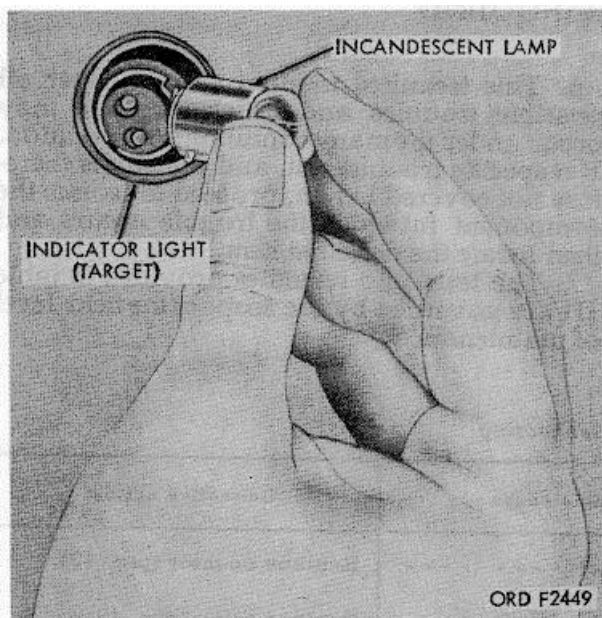
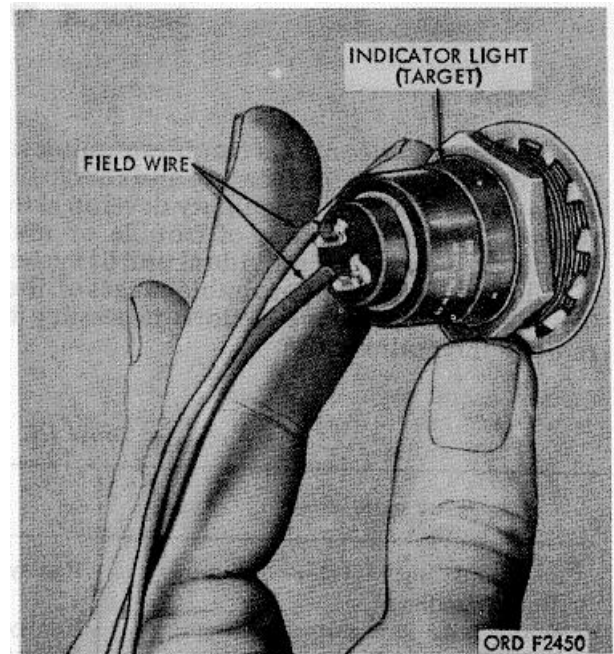

Figure 18. Removing or installing target indicator light lamp.
Figure 19. Removing or installing target indicator light
- (c) Push in on lamp and turn it counterclockwise to remove burned out lamp (fig. 18).
(2) Replace indicator light as follows:
- (a) Remove defective indicator light from target (fig. 19).
- (1) Disconnect wires from terminals of defective receptacle plug connector 5935259-1818.
- (2) Connect wires to terminals of new receptacle plug connector.